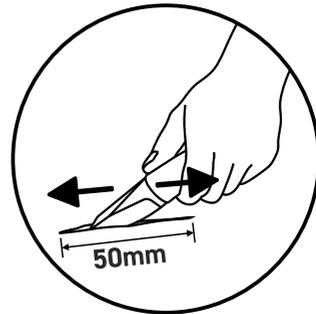

Fig 10 - Extend the hole to around 50mm
2. The hole needs to be large enough to accommodate the second half of the seal. The seal requires a minimum of 50mm clearance. If the hole is not larger enough, expand the hole until it is large enough for the seal, about 50mm (Fig 10). The maximum hole that can be sealed is 90mm.